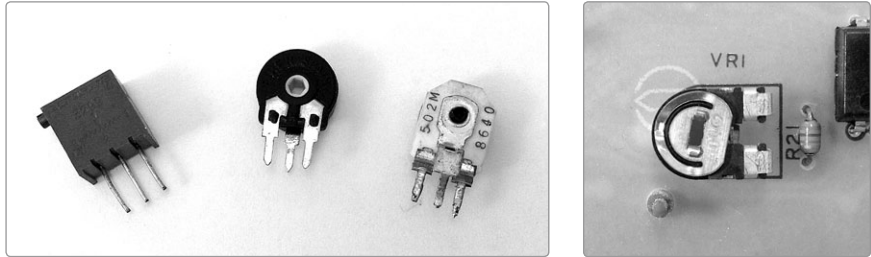

FIGURE 7-13: Several styles of trim pots (left) and an in situ trim pot (right)
Step 3 Once you've found some promising resistors—the ones nearest the ICs or adjacent to trim pots (see Figure 7-13) are often good ones—start poking around for fun bends. Load the batteries back into your electronic toy and power it up. Get the toy making noise and then use your fingers to bridge the leads on a single resistor.
Check for board-mounted variable resistors, like those shown in Figure 7-13. Variable resistors are another very promising source of bends, especially on older toys. These small potentiometers are called *trim pots* or *trimmers*, and they are often used
to fine-tune, or *trim*, a toy's speed or pitch. Trim pots are usually so small that they don't even have knobs (see Figure 7-13, left). Instead, they're adjusted using a small screwdriver or Allen wrench. Fiddle with them! You'll likely get effects like those enumerated earlier. You can remove these trim pots and replace them with large potentiometers mounted on the toy's case so that you can easily tweak them while playing. You bought that toy, so break it however you deem fit. You can also probe these trimmers with the same methods I described in Step 3. Because a trim pot frequently has three legs instead of just two leads, there are even more possibilities to explore.